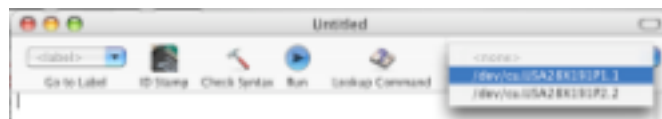
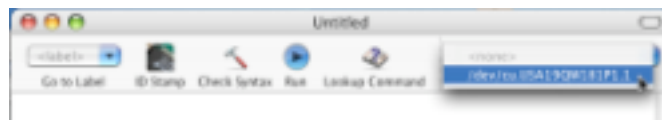

Figure 13: The port popup menu in MacBS2 for a Keyspan USA-28x
Figure 14: The port popup menu in MacBS2 for a Keyspan USA-19
- Start up MacBS2. In the pop-up menu in the windows menubar you should see either one serial port for a Keyspan USA-28x (Figure 13) or two for a Keyspan USA-19 (Figure 14).